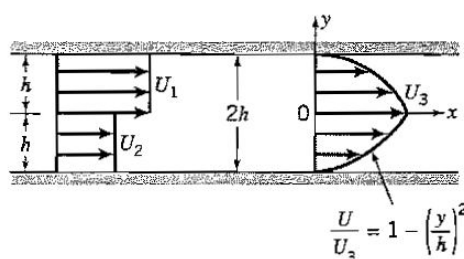

Figure P3.24
3.24 In the rectangular duct shown in Figure P3.24, two parallel streams of a constant density gas enter on the left with constant velocities U_1 and U_2 . After mixing, the gas exits on the right with a parabolic profile and a maximum value of U_3 . Find U_3 in terms of U_1 and U_2 .